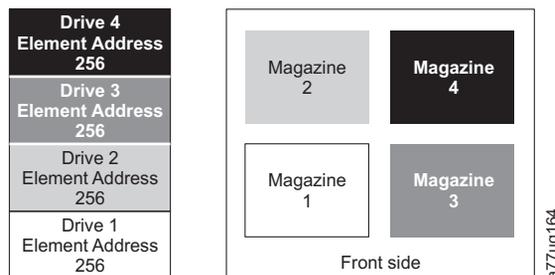

Figure 17. Configuration of a four - partition system
- Logical Library 1: Slot1 through 23 4096 (0x1000) through 4118 (0x1016) as shown in Figure 17 on page 29
When configured with four logical partitions, the Element Address assignments will be as follows: DTE assignments will be as shown in Figure 17.